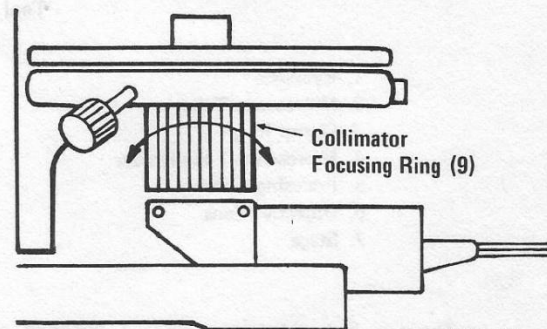

FIG. 6-5
- Turn on the collimator lamp (switch on power supply) and adjust the collimator by rotating the collimator focusing ring (9, Fig. 6-5) until the green colored cross lines come into sharp focus.
**CAUTION:** The collimator cross lines will come into, and go out of focus very rapidly. Rotate the focusing ring slowly. Fig. 6-5.